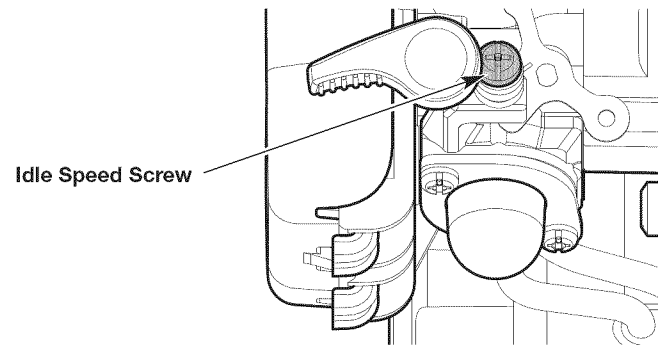

Fig. 17
- If the engine stops, increase the idle speed. Use a small Phillips screwdriver to turn the idle speed screw clockwise, 1/8 of a turn at a time, until the engine idles smoothly (Fig. 17).
- If the cutting head spins when the engine idles, reduce the idle speed. Turn the idle speed screw counterclockwise, 1/8 of a turn at a time, until the cutting head stops moving (Fig. 17).